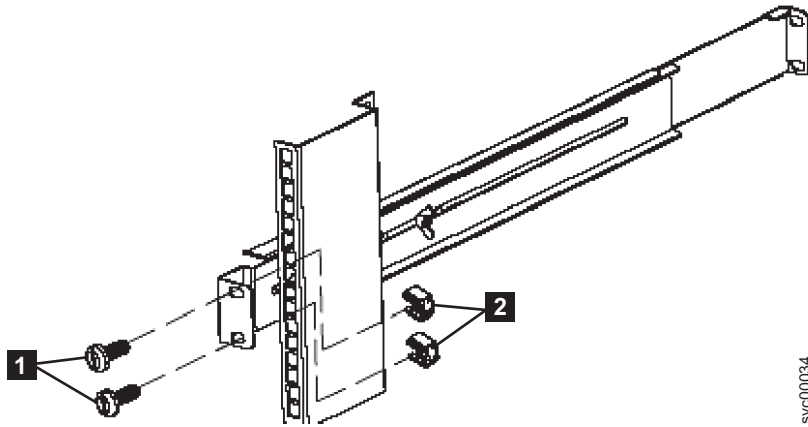

Figure 352. Removing the rear rail on the 2145 UPS-1U
5. Remove the two M6 × 10 screws from the rear side of the rail (**1** in Figure 352 on page 418) and the two clip nuts (**2**).